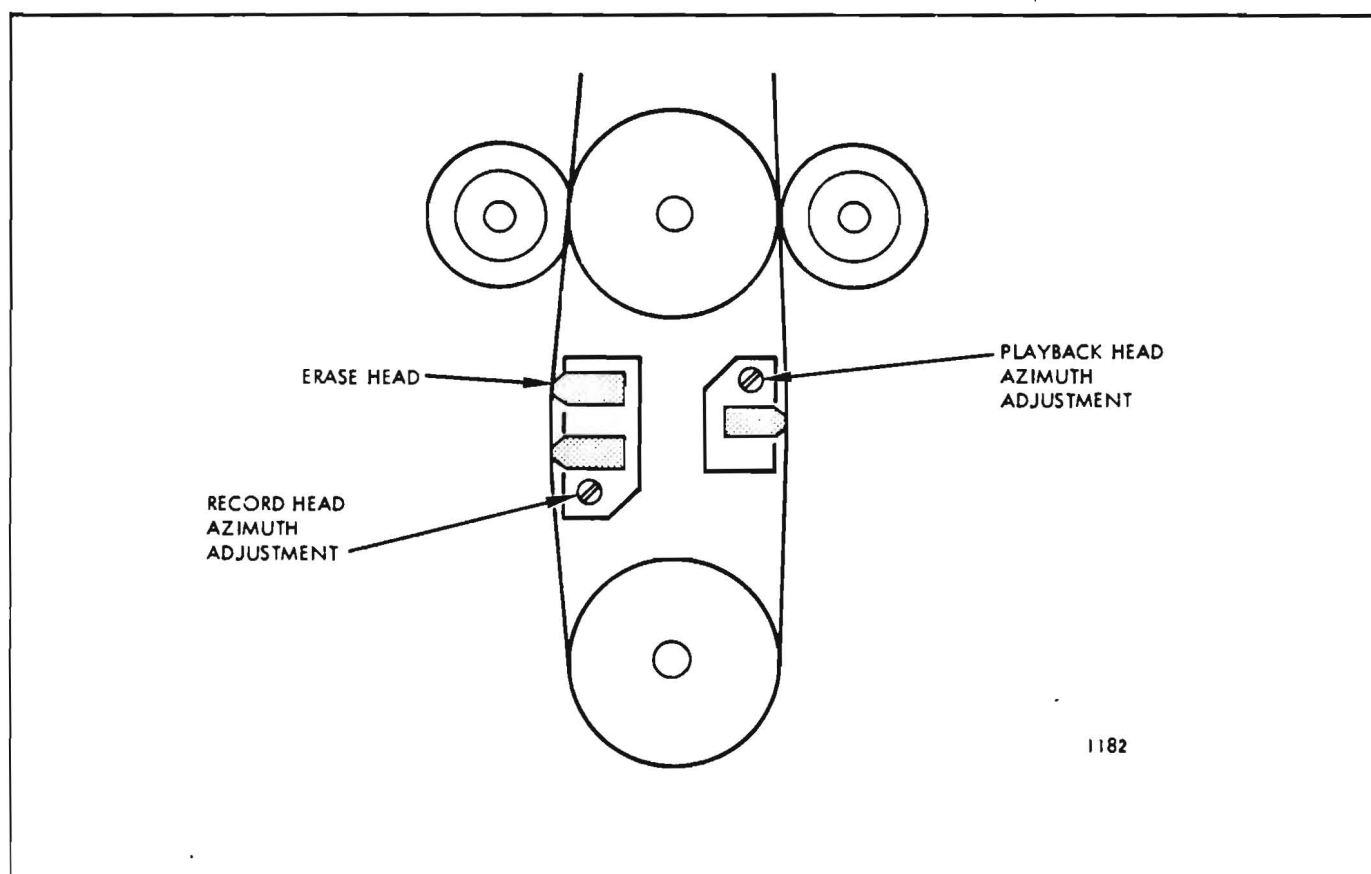

Figure 22. Record and Playback Head Azimuth Adjustments
7. Rewind the test tape to the 15 kHz tone, and adjust the playback head azimuth (figure 22) for peak output.
7. Set the oscillator to 7000 Hz. Adjust the azimuth of the record head stack to give a maximum indication on the VU meter. Reset the oscillator to 15,000 Hz and again carefully adjust the record head azimuth for maximum. Using a similar method as in step 8 of the NAB Playback Alignment, adjust the record head azimuth screw (figure 22) for less than 90 degrees phase error between any two tracks.